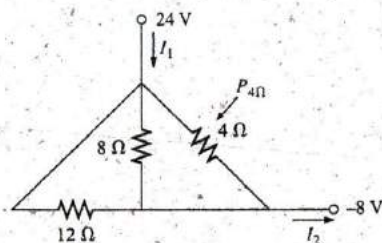

FIG. 6.92
*23. For the network in Fig. 6.92: